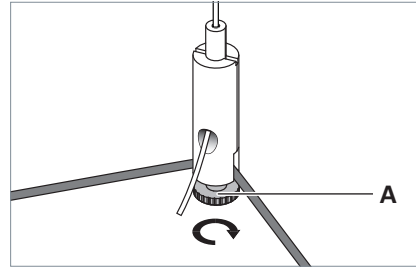

Fig. 19: Aligning the luminaire.
- ▶ To align the luminaire, loosen screw **A** at the wire rope holder, see Fig. 19.